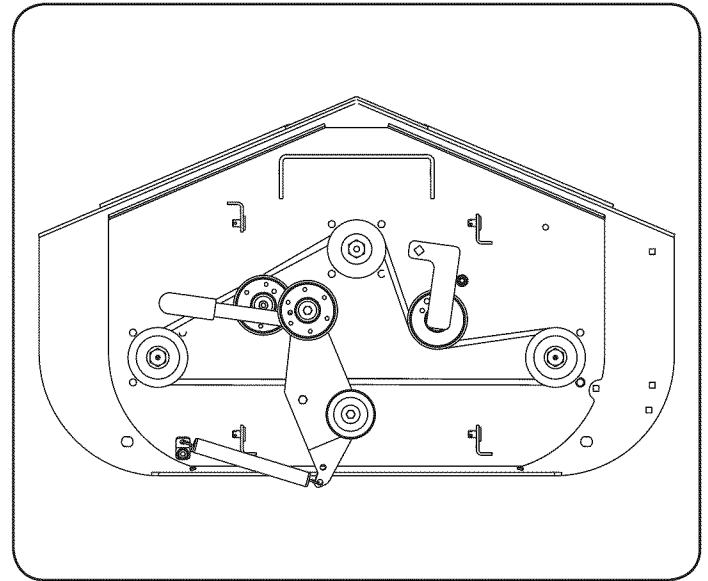

Figure 39
5. Reverse the process to install the belt. See Figure 39 for proper belt routing.